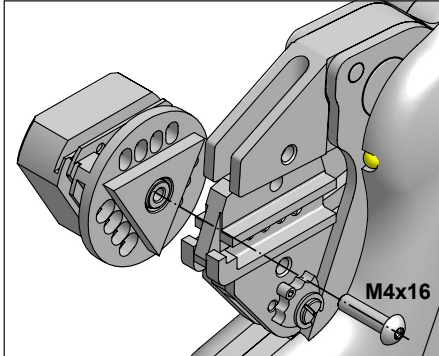

Figure 8
8.1.2.2 Example for rotated contacts (Figure 8, 9)
5. Place the positioning guide onto the M4x16 screw as shown in Figure 8 and secure using the thread contained in the locator. (Figure 9)